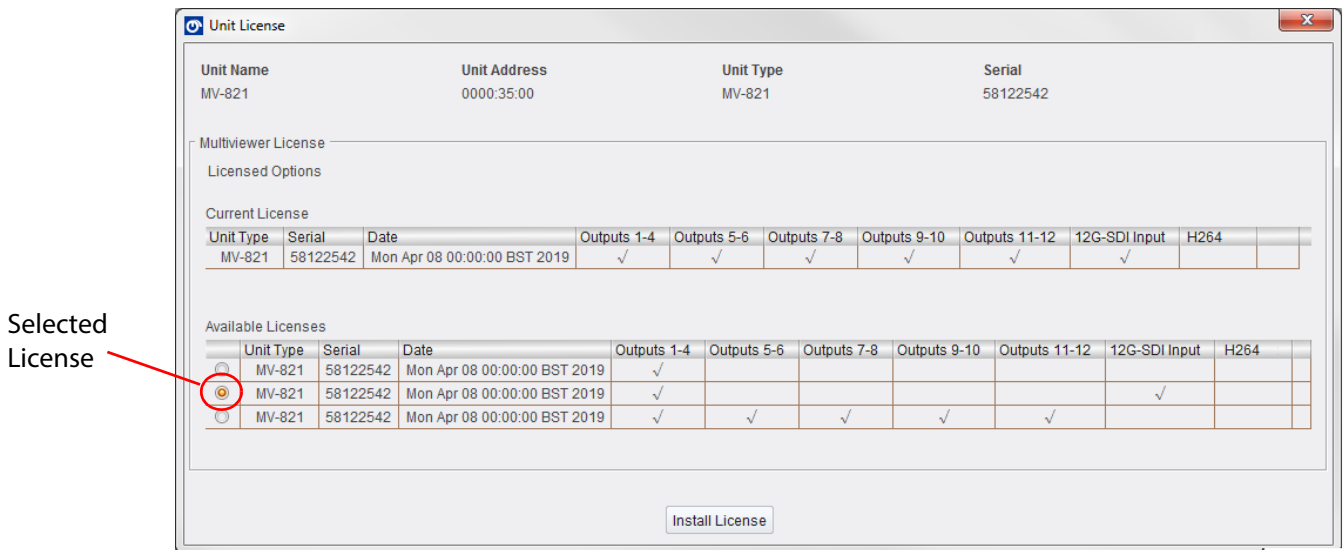

Fig. 11-4: Unit License Dialog - Selected License (An image for MV-821 is shown)
- 2 The **Unit License** window shows current licenses and available licenses. See Figure 11-4.